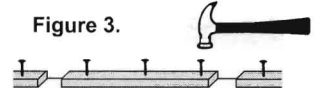

Figure 3.
3. Start nails (provided in envelope) in head strip, 3 nails to each section. Refer to Figure 3. Pick up screen, place center mark on screen head strip over center mark on facing. Nail center strip, being sure that it is level. Now nail outer sections to facing.